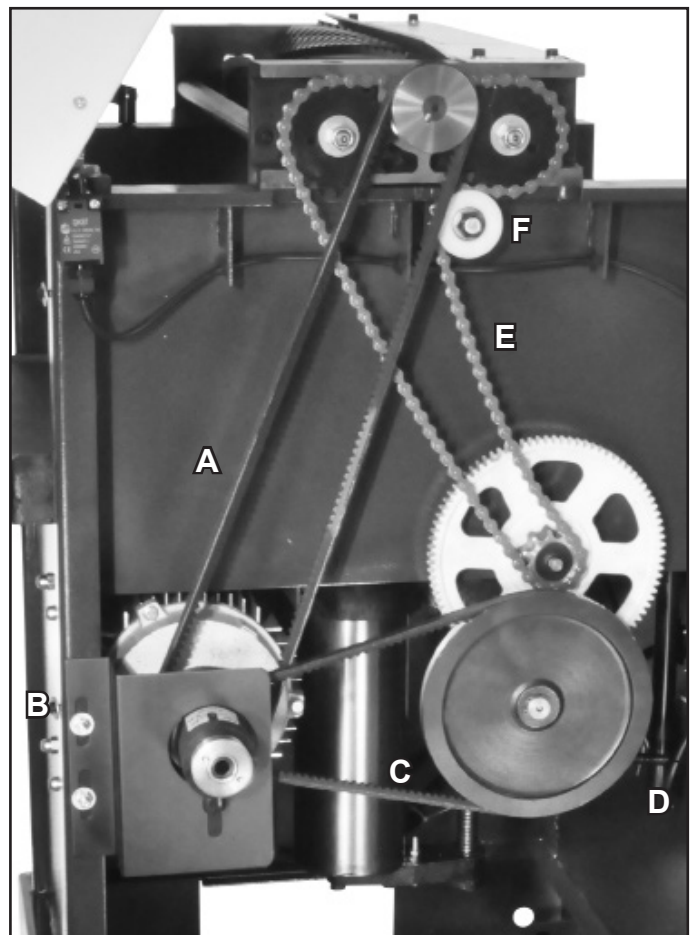

FIG. 23
5. Check the *Cutterhead Drive Belt* (#145, FIG. 23, A) tension with thumb pressure. The drive belt should not give more than 3/8" to 1/2" in the center.